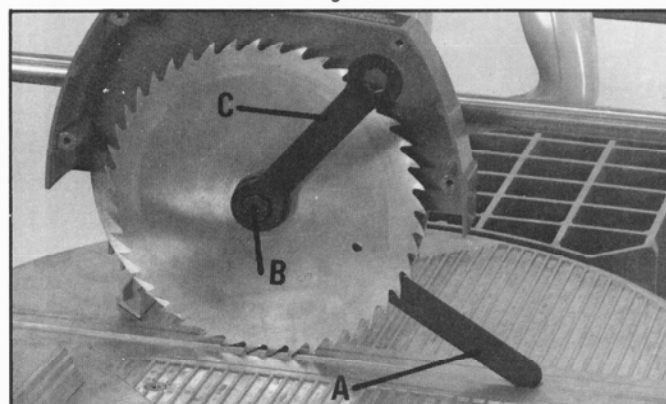

Fig. 50
3. With wrench (A) Fig. 50, on the flats of the inside blade flange, rest other end of wrench (A) on table top, as shown. Then turn blade screw (B) clockwise with wrench (C) Fig. 50, to remove blade screw.